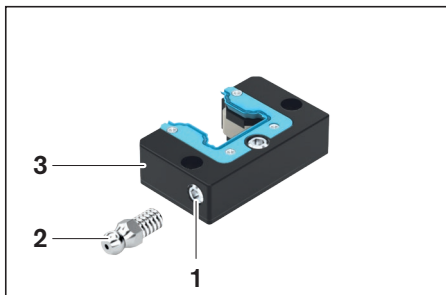
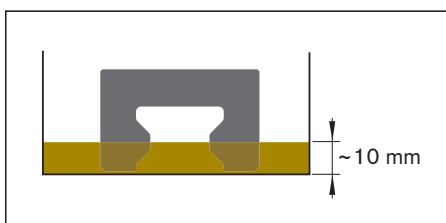

Figure 1
Figure 2
- ▶ Remove the set screw from the lube port (fig. 1, item 1) and keep for later use.
- ▶ Screw in lube nipple (2).
- ▶ Lie the front lube unit (3) down flat, fill with quantity of oil as per table 1, and leave it to lie for around 36 hours.
- ▶ For size 20 low profile: Stand the front lube units in 10 mm of oil for approx. 36 hours (see fig. 2).
- ▶ The front lube unit size 20 low is **not** refillable via the lube connection (see figure 2).